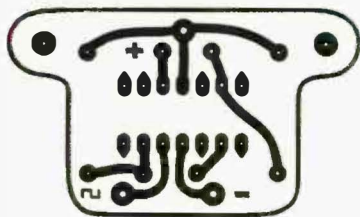
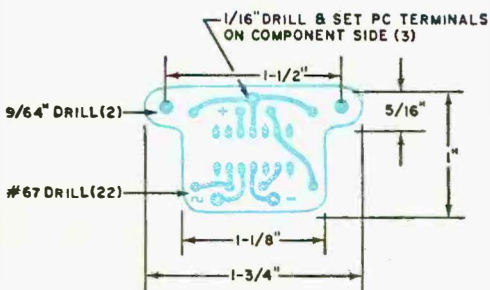

Fig. 3. Use this actual-size printed board if you want to make the "Testone" as small as possible.
Fig. 4. Drilling information for the PC board. Use of PC terminals makes a professional-looking job.
**Construction.** Figure 1 is the schematic for the "Testone" and Fig. 2 shows the equivalent circuit of the IC. An actual-size printed circuit board appears in Fig. 3, while Fig. 4 gives you the layout and drilling details. You can make the PC board from a  $1\frac{3}{4}$ " x 1" x  $\frac{1}{16}$ " scrap of printed circuit material.